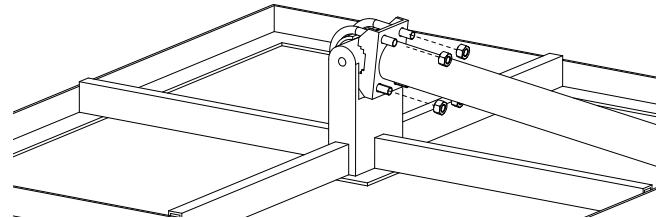

Fig. 4: Screwing the Nuts Hand-tight
5. Screw the mast and the U-bolt construction hand-tight using 4 M10 nuts (Fig. 4).